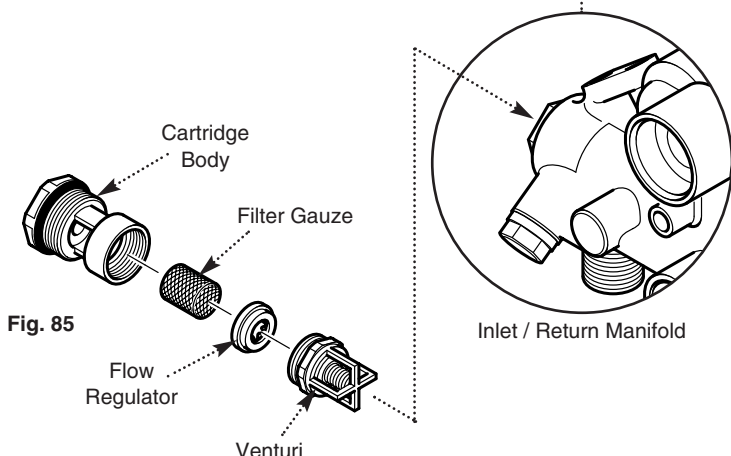

Fig. 85
12.22 Flow Regulator (Figs. 85 & 86)